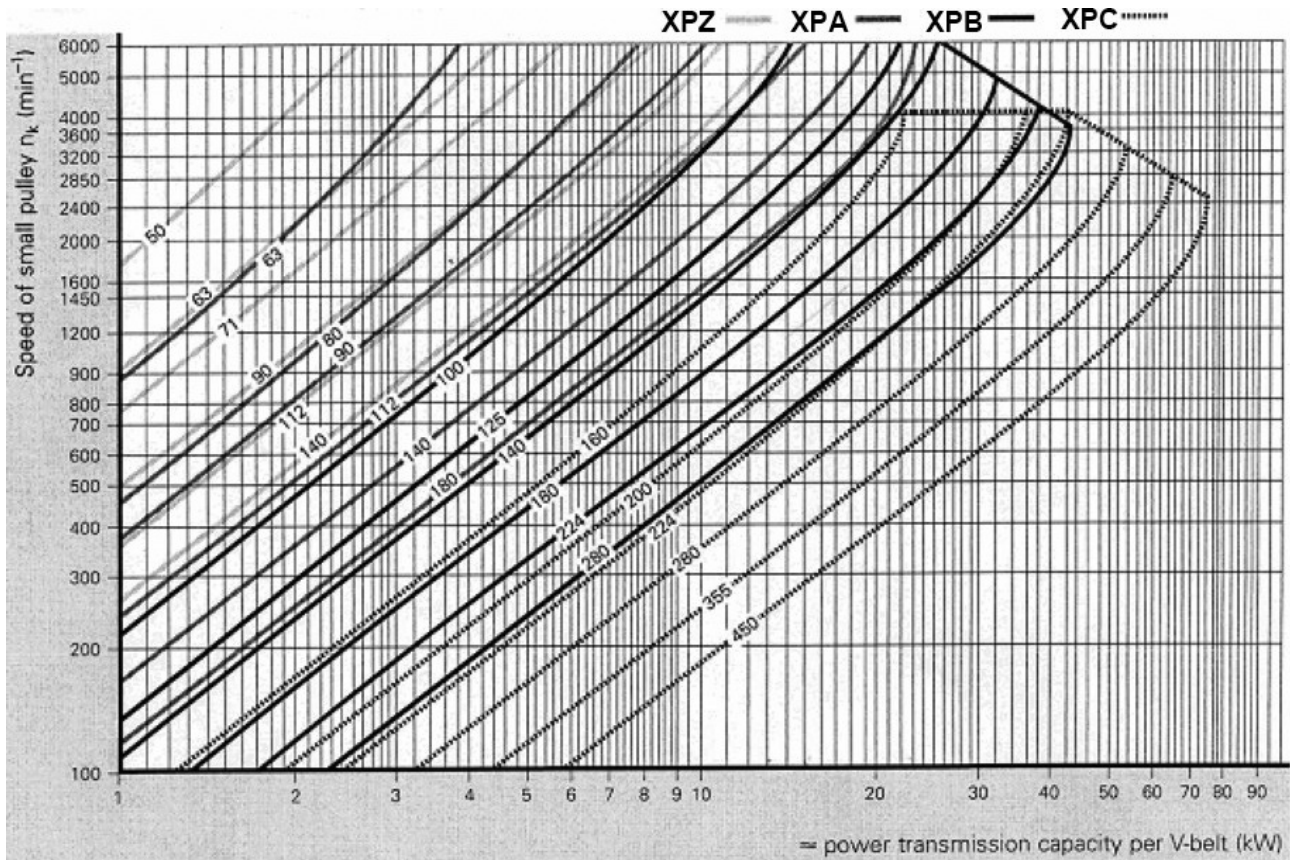
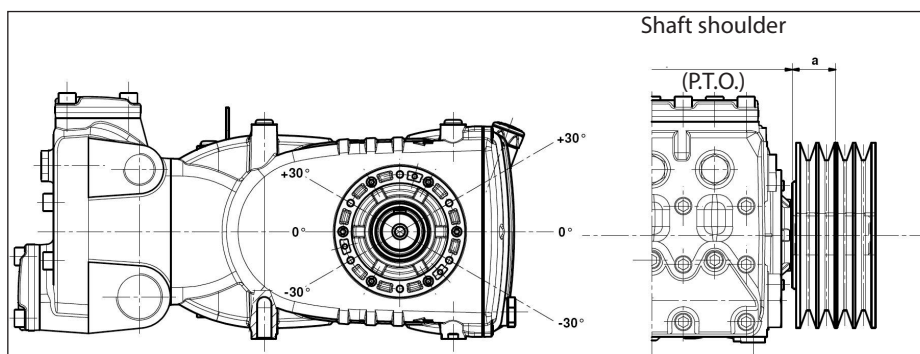

Fig. 8
Fig. 11
For this pump model, we recommend to use No. 4 XPB belts (16.5x13 serrated). Use an XPC profile only for long durations. Both the characteristics and transmissible power of each belt can be verified in the diagram in Fig. 8, in relation to the number of rpm normally declared by the manufacturer. Minimum duct pulley diameter (on pump shaft): ≥ 250 mm. The radial load on the shaft must not exceed 7500 N (value necessary for Layout definition). The transmission is considered adequate if the load is applied to a maximum distance **a=40 mm** from the shaft shoulder (P.T.O.) as shown in Fig. 11.
- b) Use high performance belts – for example **XPB** instead of **SPB** – as a lower quantity of belts for the same transmitted power may be necessary and a consequent shorter resulting distance compared to the shaft shoulder (P.T.O) “a” of Fig. 11.
- e) Follow the direction of the belt pull as shown in Fig. 11 for other needs, contact our **Technical** or **Customer Service Department**.